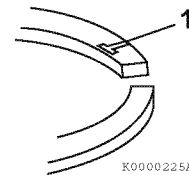

Figure 6-88
4. Lubricate and reinstall the wrist pin (**Figure 6-88, (6)**) through the piston and connecting rod.
5. Reinstall the second circlip (**Figure 6-88, (5)**) and ensure it is securely seated in the groove.